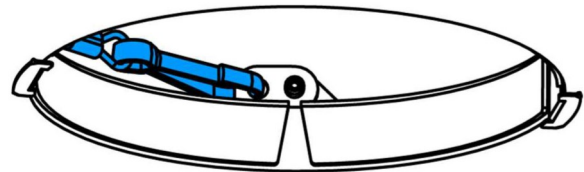

Fig. 9
- Fasten safety lanyard from splice box to one side of the mounting ring (Fig. 9).